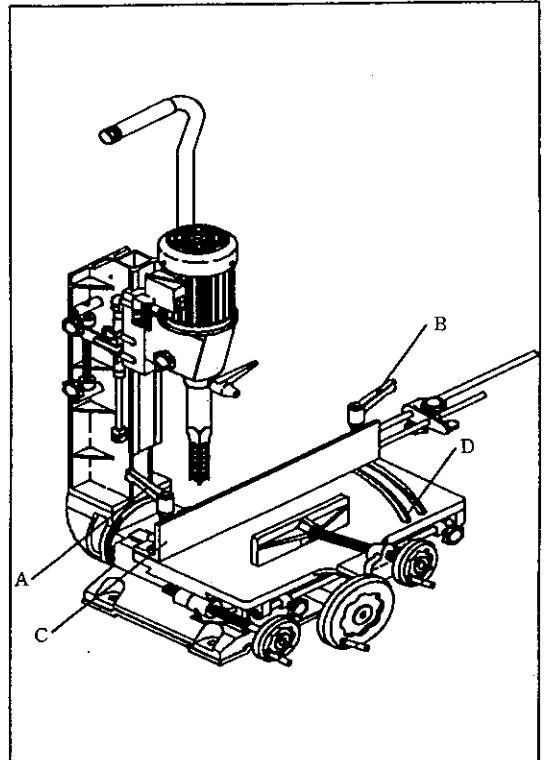

Fig.9
1. Loosen lock knob (A) and (B). (Fig.9)
2. Point the scale (D) to adjust fence (C) to the desired angle $0^\circ - 30^\circ$.
3. Tighten lock knob (A) and (B).